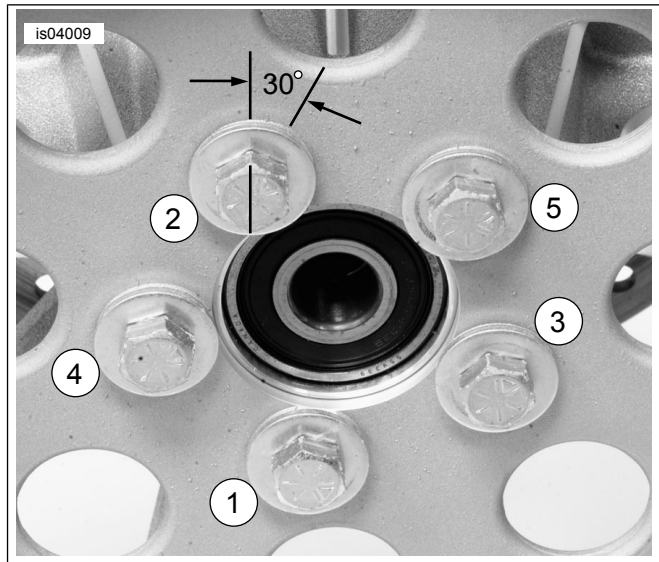

Figure 3. Tightening Sequence (Later Laced Wheels and All Cast Wheels)
4. See Figure 3. Tighten the bolts in the sequence shown to 23 ft-lbs (31.2 Nm).
7. Using the marks as a guide, and using the tightening sequence shown in Figure 3 +, turn each screw an additional 1/12 turn or 30° clockwise.